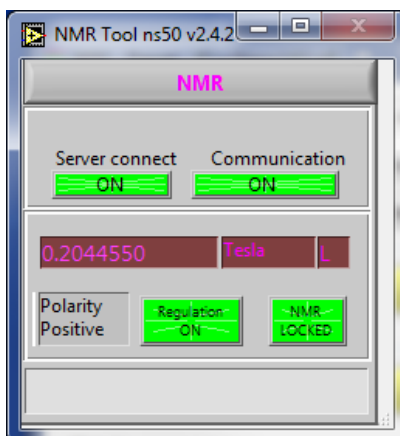

Figure 354: NMR reduced window with the Regulation ON
- Wait for the regulation process (the Regulation button will turn from dark green to bright green, Figure 354)